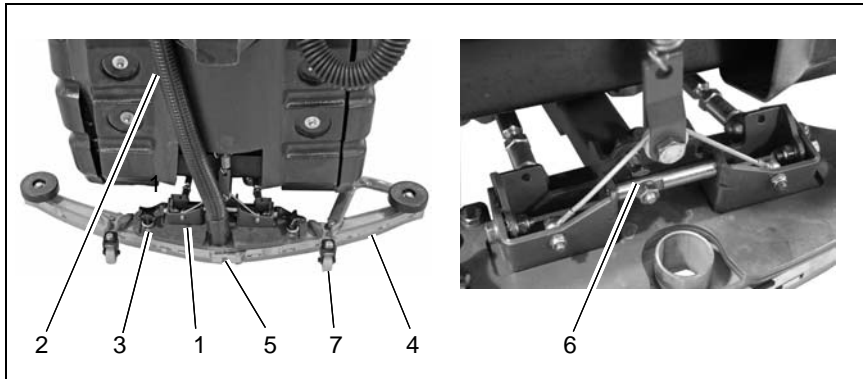

Fig.15
To clean the squeegee (Fig. 15/1), raise it, disconnect the suction hose (Fig. 15/2), loosen the two star-shaped knobs (Fig. 15/3) and remove the squeegee.
Check the inner and outer sealing strips (Fig. 15/4) on the squeegee for signs of wear. The sealing strips can be turned four times (90°) and reused.
4. Loosen the fastening device (Fig. 15/5) and remove the outer sealing strip. Turn the sealing strip or replace it, as necessary. Change the inner sealing strip in the same way.
2. Loosen the counter nut on the adjusting screw (Fig. 15/6) and adjust the squeegee using the adjusting screw so that the ends of the sealing strips still have contact with the floor.